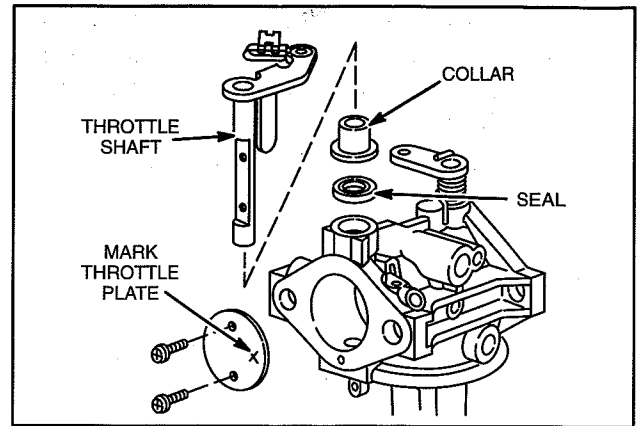

Fig. 12 – Removing Throttle Shaft
9. Remove two screws, throttle plate, throttle shaft with collar and seal, Fig. 12.